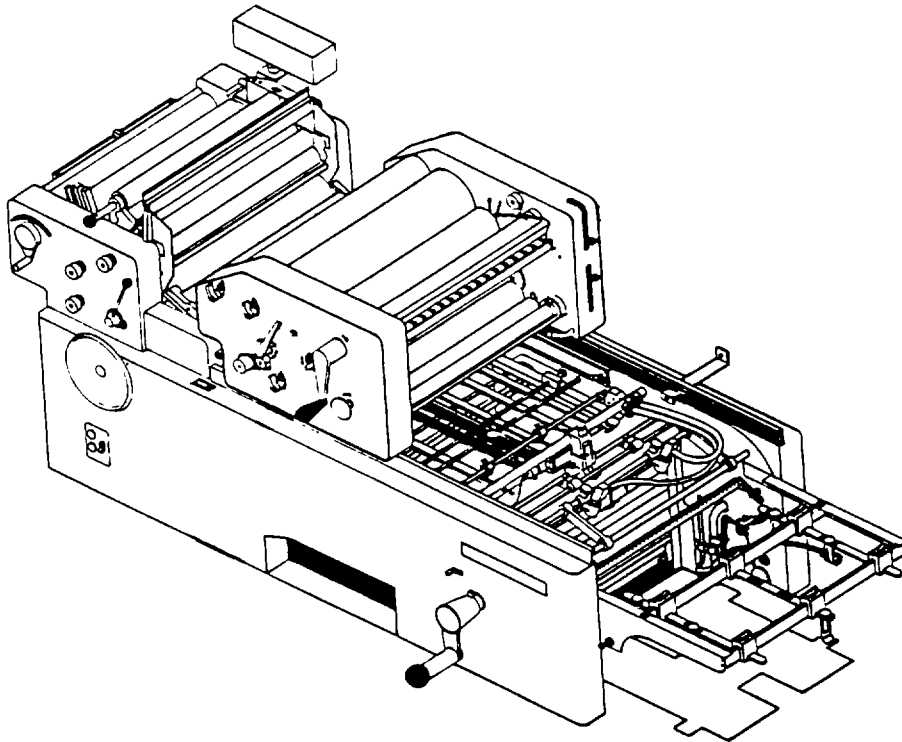

Figure 4-1. Duplicating Machine, Modifications
a. Inspect. (See Figure 4-1.)
(1) Inspect duplicating machine modifications for general condition and security of mounting.